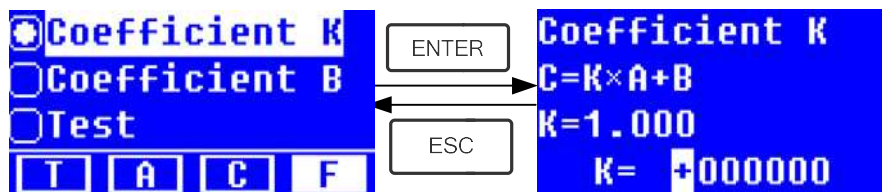

Fig. 4-18
- ★ Use Arrow Key to move the cursor on “**Coefficient K**” and press  to go into **K** setting interface. (Fig. 4-18); Input every bit of K by Arrow Key and press  to confirm. When the last bit finished, system will return the former Interface automatically.